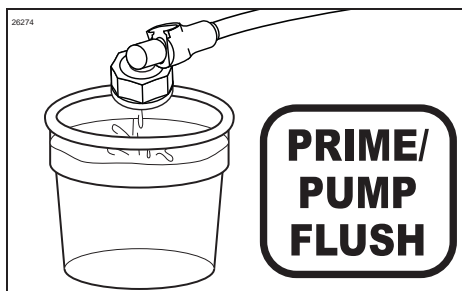

Figure 64
12. Place the Syrup Bag Adapter over a cup. Select the disconnected syrup line (1-8) and press WATER/SYRUP FLUSH to allow sanitizer solution to flow through the adapter for at least 1 minute. (See Figure 64.)